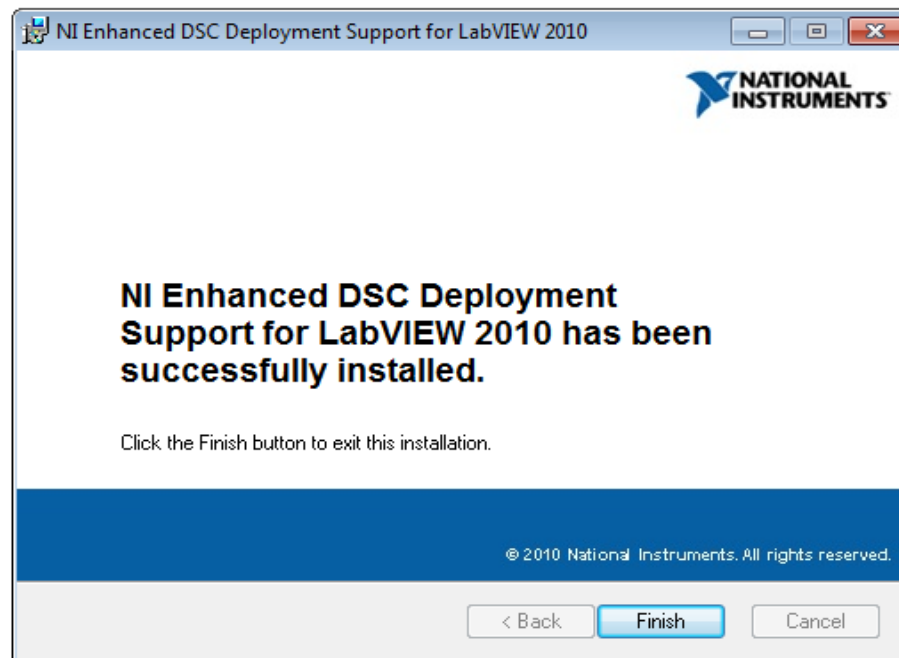

Figure 1-20 Installation Complete
7. A screen shown in Fig.1-20 will appear indicating the completion of LabVIEW 2010 RTE installation. Click **Finish»** Button